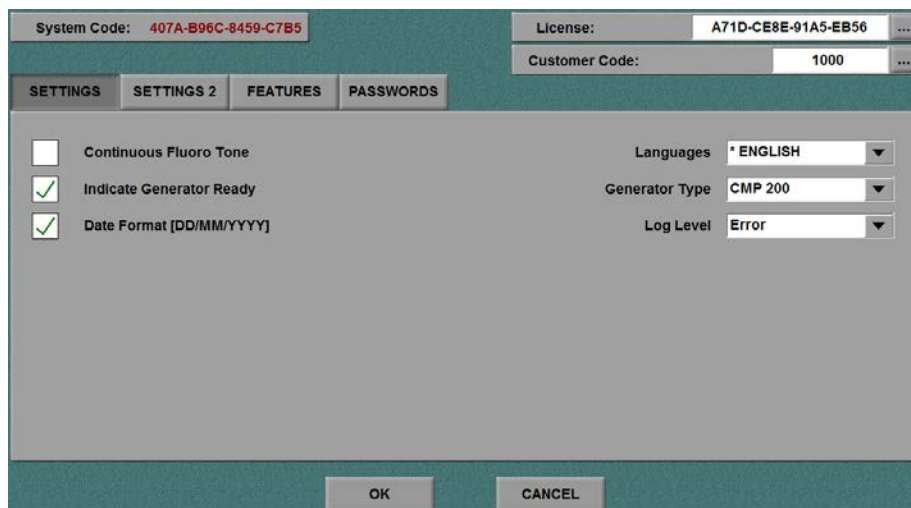

Figure 3-34: Touchscreen Setup Window, Settings Tab
3. Select the image receptor button for which the symbol is to be changed. The receptor numbers in Figure 3-34 correspond to the receptor numbers in GenWare®, and are shown for reference only. For the CMP 200® series, only receptors 1 to 5 are available.
2. The touchscreen setup window will be displayed (Figure 3-34). This has three tabs, SETTINGS 1, SETTINGS 2, FEATURES and PASSWORDS that will be discussed in sequence.